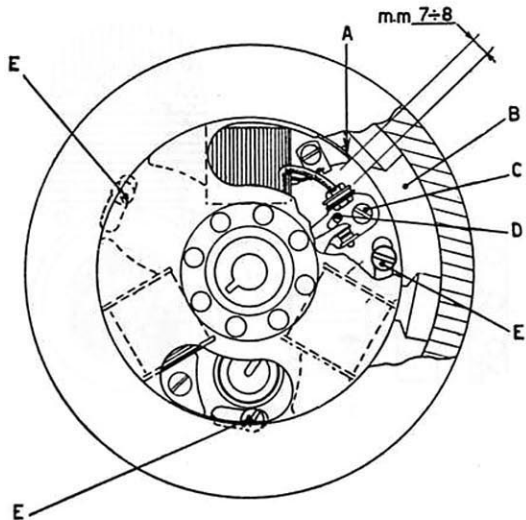

Fig. 79. Timing the flywheel magneto.
bulb lights. At this moment inspect, through the flywheel opening, to see the rotor position as regard to the H.T. feeding coil on stator; the flywheel is correctly timed, if the distance between the visible end "A" of the coil (see Fig. 79) and the edge "B" of the pole shoe of rotor opposite to the key way on the cam is 7.8 mm (0.27 - 0.31").
If not, loosen screw "C" (see Fig. 79) and then set, by means of a screwdriver, the cam "D", which controls the position of breaker arm, until the bulb lights when points "A" and "B" are 7.8 mm (0.27-0.31") away from each other.
6. Now you can start with the engine timing; remove the rotor, slacken the three screws "E" (see Fig. 79) retaining the stator on the crankcase. Then rotate the stator to the proper position for obtaining the required spark advance. Check the latter by means of timing gauge T.0016205 (see section "Re-Assembly").